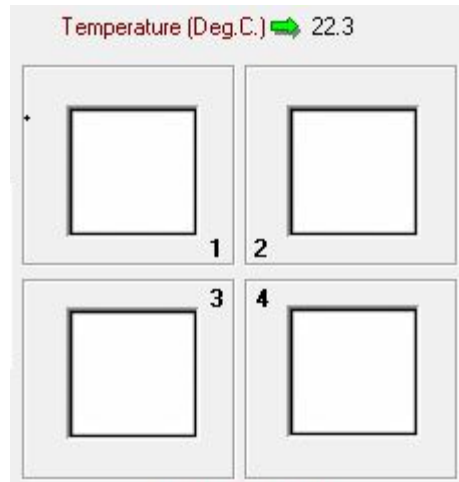

Figure 13. Sample configuration and informational display.
7. On the main screen, find the sample information under the temperature settings (as shown in Figure 13). Note in the figure the four samples have not been defined so there is no information being populated.